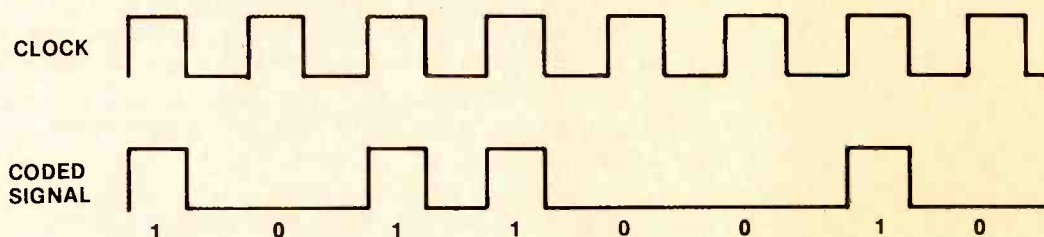

Figure 2.
**Figure 2.** In a serial data transmission, bits are sent one at a time via a single path and assembled into a word at the receiving end. Presence of a pulse represents a logic 1.
Serial data transmission is accomplished by sending one individual digit of a code at a time. This is illustrated in Figure 2. The clock is used to time the signals and move the data. In this case, the data consists of pulses that represent a logic 1, and absence of pulses that represent logic 0.
A disadvantage of data transmission shown in Figure 2 is that it is not possible to tell whether the pulse is missing because it was not sent or because the transmitter/receiver combination was not able to convey the pulse from one point to another.
**Figure 3.** This scheme of data transmission differs from that of Figure 2 in that, here, a wide pulse represents a logic 1 and a narrow pulse represents a logic 0.